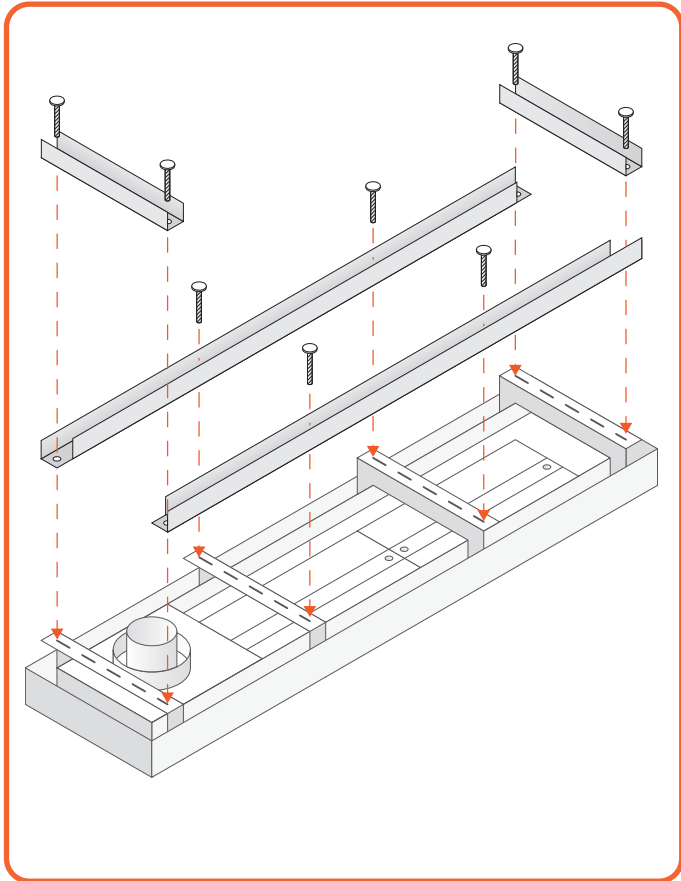
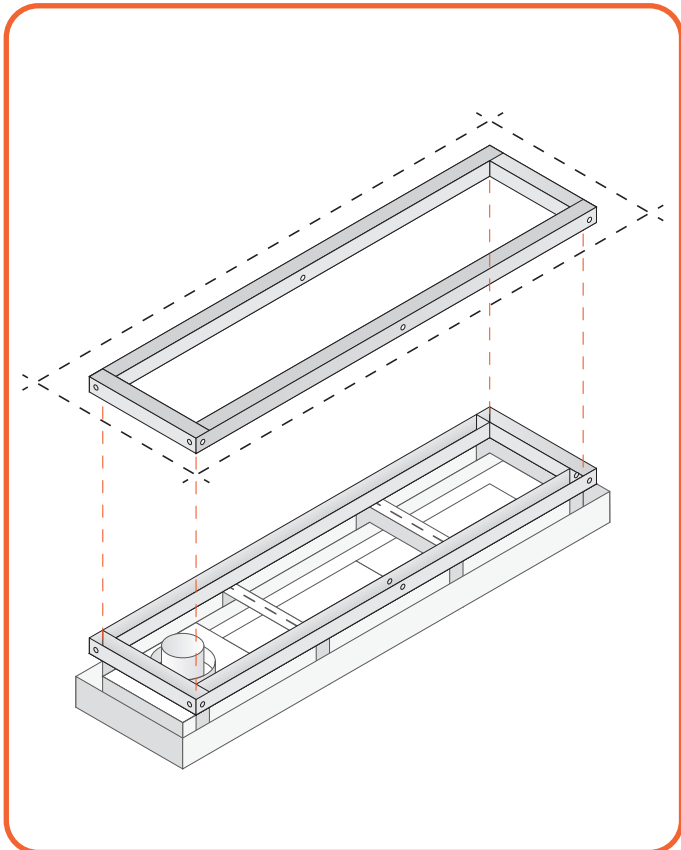

Figure 6.12 | Create a frame on top of the fireplace
Figure 6.14 | Align both the frames
- First of all, create a frame for the fireplace itself and the same frame for the ceiling (Figure 6.12 to Figure 6.14).